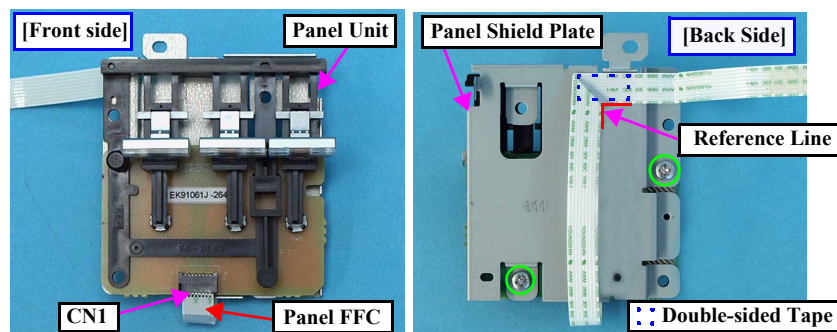

Figure 4-121. Removing the Panel Board / Buttons (2)
- Attach the Panel FFC with double-sided tape along with the reference line shown in Fig.4-121 \(p.101\).